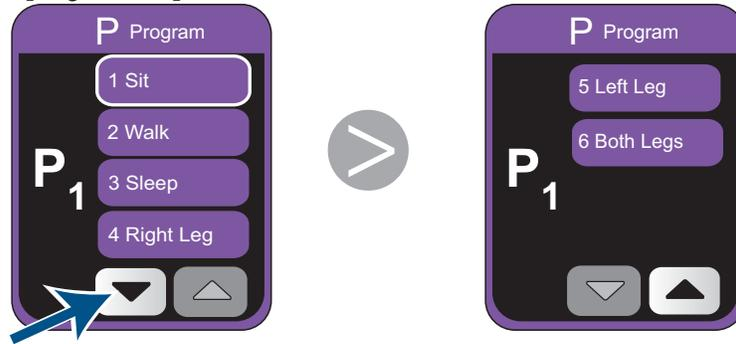

Figure 15. Viewing additional programs
2. If  and  are displayed, you have more than 4 programs available (*Figure 15*). To view more programs, tap .